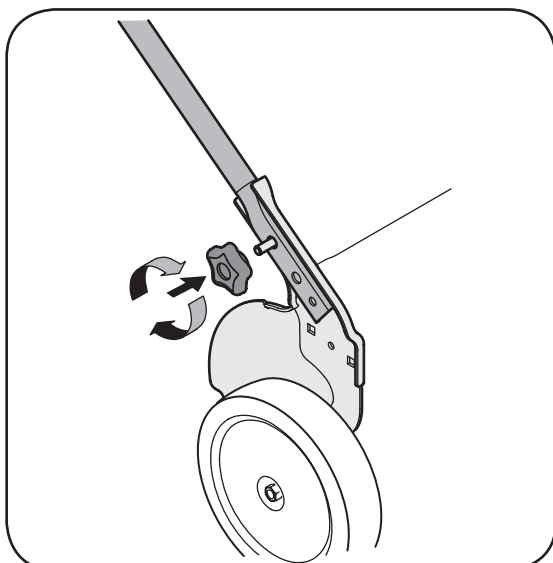

Figure 3-2: Secure handle to handle mounting brackets.
2. Replace and tighten hand knobs removed earlier securing lower handle to handle brackets, Figure 3-2.